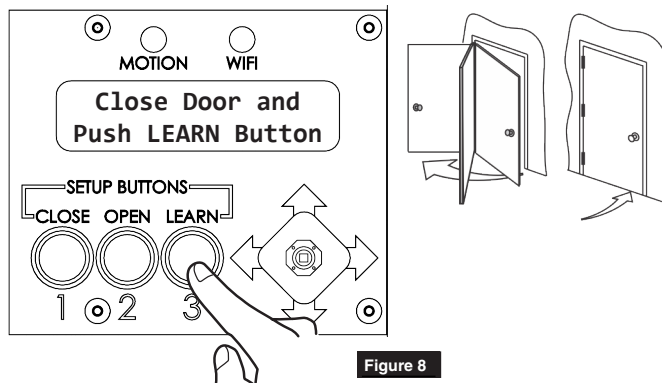

Figure 8
5. Operator must now learn its internal settings. Press and release LEARN button on board. BLUE LEARN LED will start flashing and door will open in small increments. Allow door to open and close without interference. (Figure 8)